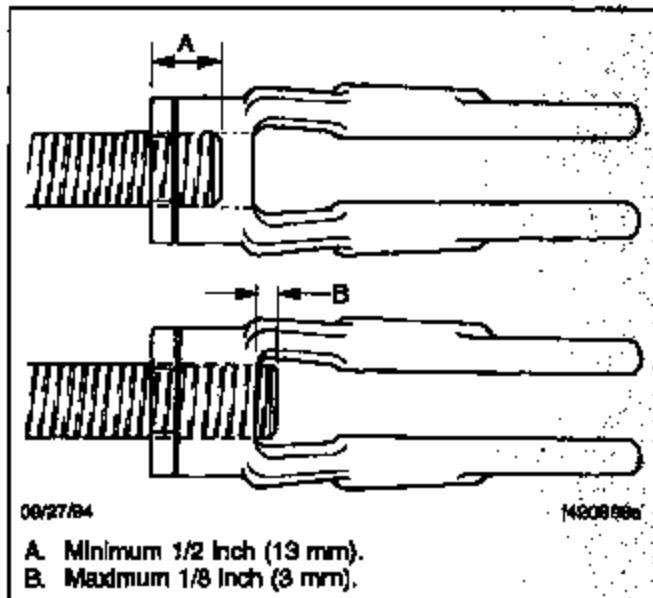

Fig. 6, Check Pushrod Engagement
- 6.5 Make sure there is at least 1/2 inch (13 mm) of thread engagement between the clevis and the pushrod. Also, check that the pushrod does not extend through the clevis more than 1/8 inch (3 mm). See Fig. 6.
- 4.3 Measure the distance from the bottom of the brake chamber to the center of the large clevis pin again. See Fig. 6, Ref. B. Record this measurement as dimension B.
- 5.2 Fully apply the brakes. Then, measure the distance from the bottom of the brake chamber to the center of the large clevis pin. See Fig. 6, Ref. B. Record this measurement as dimension C.